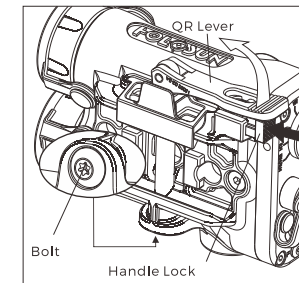

Fig 4
4.2.2 External power source(Fig 4)
- 1) Uncover the socket protective cover(Fig 4).